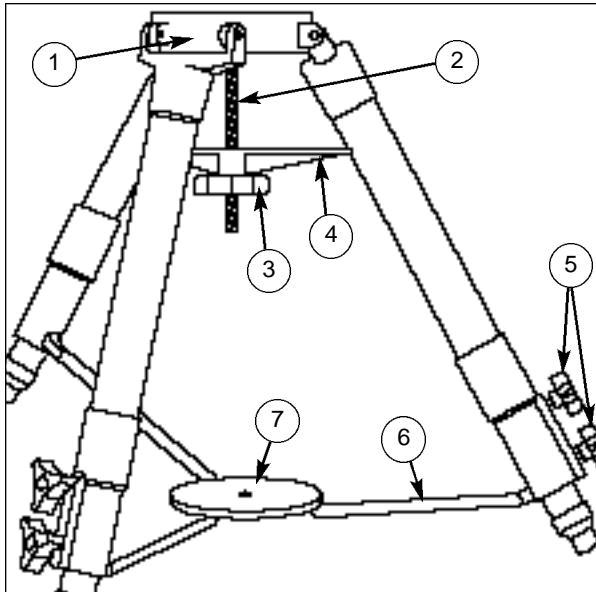
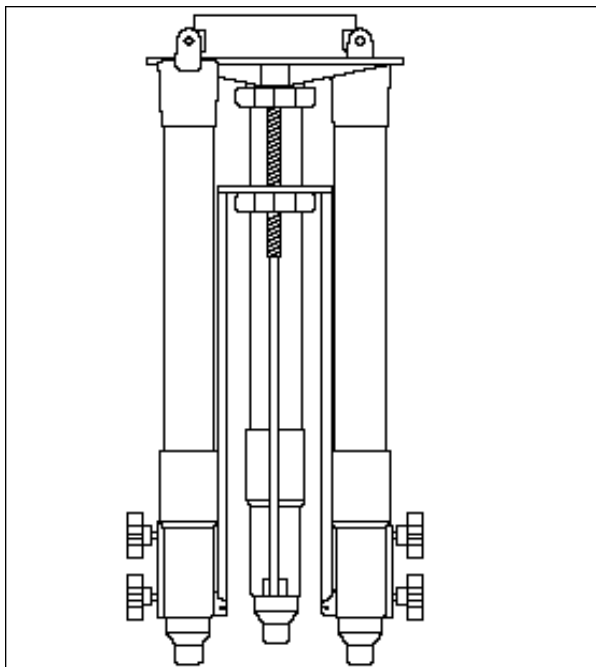

Fig.2: LX200 Field Tripod. (1) Tripod head; (2) Threaded rod; (3) Tension knob; (4) Spreader bar; (5) lock-knobs; (6) Extension strut; (7) Tension hub.
Fig.3: Field Tripod (collapsed).
The 16" Field Tripod (Figs. 2 and 3) for the Meade 16" LX200 telescope is supplied as a completely assembled unit, except for the spreader bar (4, Fig. 2) and the six lock-knobs (5, Fig. 2). There are two knobs for each of the three tripod legs. They are used to adjust the level of the tripod. These knobs are packed separately for safety in shipment.
After removing the field tripod from its shipping carton, stand the tripod vertically, with the tripod feet down and with the tripod still fully collapsed (see Fig. 3). Remove the lower knob, releasing the tension hub (7, Fig. 2). This knob is used only when storing the field tripod. Moving one leg at a time, **gently** pull the legs apart. As the legs are opened, the tension hub will move down the threaded rod (2, Fig. 2) until it is free from the threaded rod. Continue to move the legs apart to a fully open position.
Thread in the two lock-knobs (5, Fig. 2) for each tripod leg, near the foot of each leg. These lock-knobs are used to fix the position of the inner tripod leg sections. These sections are used to level the telescope (described below).
Loosen the tension knob (3, Fig. 2), holding the spreader bar (4, Fig. 2), and slide the spreader bar down the threaded rod until you can rotate it so that the three arms align with the three tripod legs. Tighten the tension knob; firm tightening of the tension knob is sufficient to result in rigid positioning of the legs. **Do not use force in tightening this knob.**
- Do not overtighten the six lock-knobs (5, Fig. 2) used to fix the inner tripod leg sections at various heights. Firm-feel tightening is sufficient; overtightening can damage the leg.
- Be sure the spreader bar (4, Fig. 2) is not upside-down on the threaded rod. See Fig. 3 for proper orientation.
- b. Position the 16" drive base (16, Fig. 1) onto the field tripod, with the power panel facing North, away from the South-facing tripod leg. Secure the drive base using the three 1/2"-13x1-1/2" long bolts. These bolts thread up through the underside of the tripod head (1, Fig. 2) into the drive base. Firmly tighten these bolts.
- c. Level the drive base by loosening the six lock-knobs (5, Fig. 2) and sliding out the inner tripod legs until the bubble level on the drive base reads level.